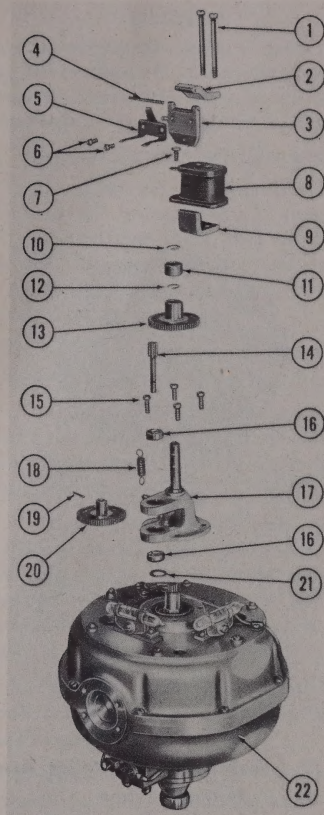
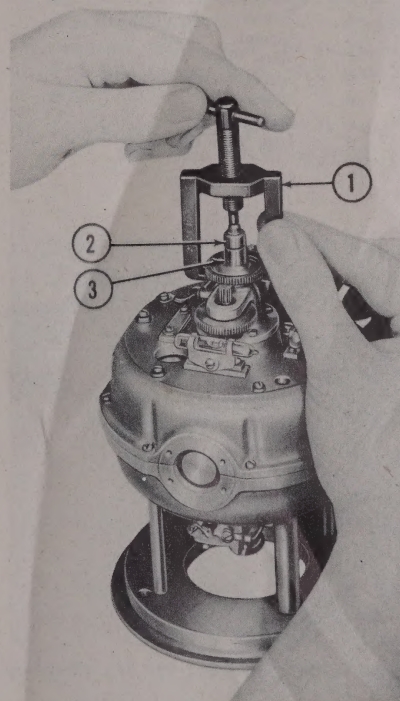

**Figure 173 — Erecting Cutout Mechanism
**Figure 174 — Using Puller to Remove Erecting
(9) REMOVE ERECTING CUT-OUT MECHANISM.
(a) Install erecting cut-out puller (1, figure 174) with the claws under the cut-out roller gear (3), taking care that claws do not touch the fingers on the gear actuating arm (5, figure 173). Screw down on puller handle to remove upper erecting roller (11), roller gear (13), and the snap rings (10 and 12) which hold them in place on the spindle. If puller is not available, snap rings may be removed with a small screw driver and slipped off.